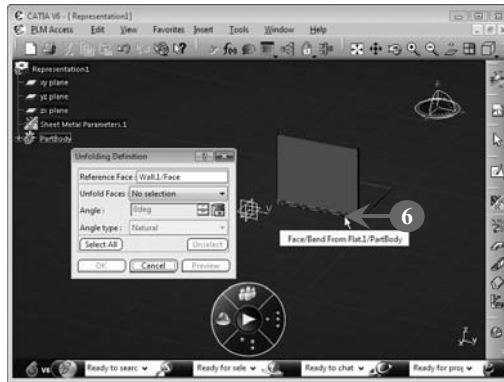

FIGURE 6.61
The base wall is added to the **Unfolding Definition** dialog box (**Figure 6.61**).
6. Select the bent face, as shown in Figure 6.61: